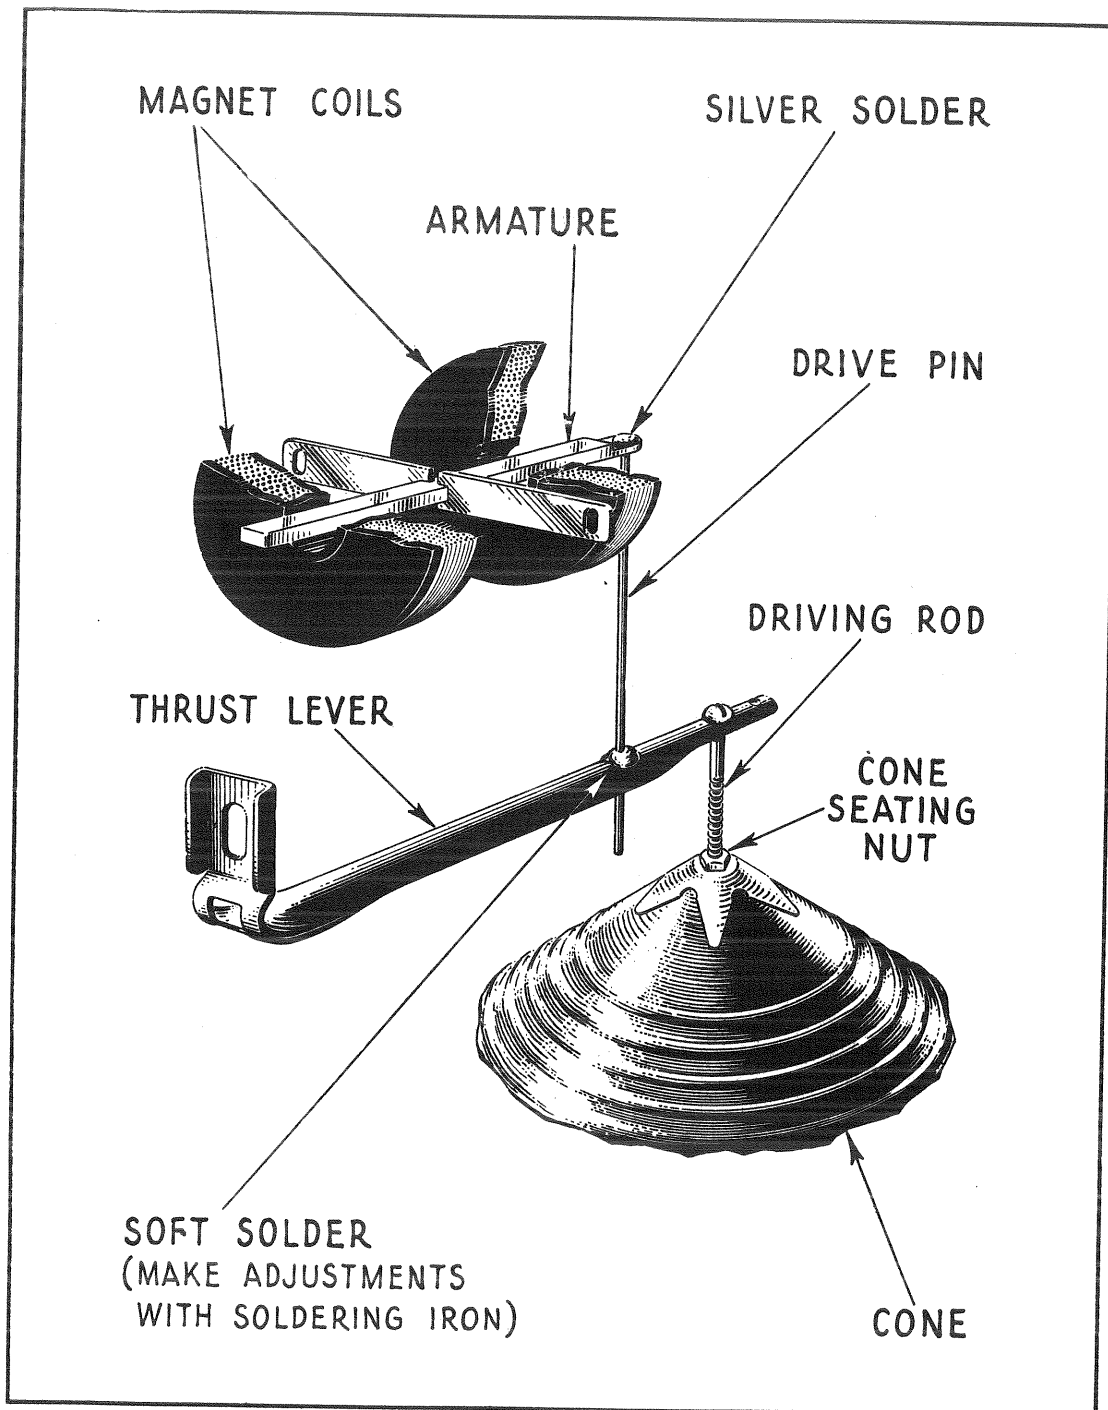

Figure 1—Diagram showing constructional details and operating principle of RCA Loudspeaker 100A
In some cases a cone may become improperly aligned or adjusted, causing a strain to be placed on the driving rod, due to the cone not centering or seating properly. Poor reproduction is the result and inspection of the armature drive-pin may indicate a slight torque or twist. This is most likely to occur when replacing a cone. The new cone should be carefully seated by placing the cone over the driving rod and adjusting the cone seating nut located on driving rod next to thrust lever (See Figure 1, page 4). Then attach cone lock nut and washer lightly on inside of cone before fastening the edge of cone. The holes on the edge of the cone can now be lined up with those of the metal frame and the outside ring lightly attached with screws and nuts. The cone lock nut is then tightened and sealed in place with ordinary sealing wax so that the vibration of the cone will not cause it to loosen. This nut can best be tightened by means of a small socket wrench made to fit a 3/16" hex. nut (Stevens "Spintite" No. 3 can be used). The six screws at the outside edge are then seated properly. In doing this take up on each screw a little at a time causing a gradual seating of the screws.
- (b) Adjust cone seating nut (See Figure 1, page 4), so as to properly seat cone and provide clearance for thrust lever from pole piece.